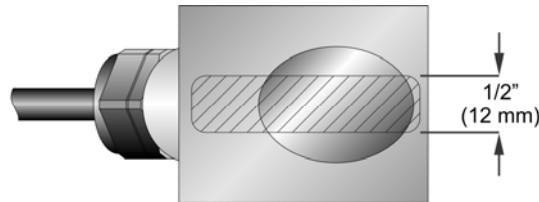

Figure 2.3 Transducer Couplant Application
1. Place a single bead of couplant, approximately 0.50 inch (12mm) thick, on the flat face of the transducer (**Figure 2.3**). Generally, a silicone-based grease is used as an acoustic couplant, but any grease-like substance that is rated not to “flow” at the temperature that the pipe may operate at, will be acceptable.
5. Place a single bead of couplant, approximately 0.50 inch (12 mm) thick, on the flat face of the transducer. See **Figure 2.3**. Generally, a silicone-based grease is used as an acoustic couplant, but any grease-like substance that is rated not to “flow” at the temperature that the pipe may operate at, will be acceptable.
4. Place a single bead of couplant, approximately 0.25 inch (6 mm) thick, on the flat face of the transducer. See **Figure 2.3**.